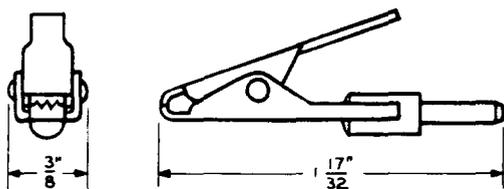

Fig. 14—KS-6278 Connecting Clip
**2.23 KS-6278:** The KS-6278 connecting clip tool (Fig. 14) is for general use on 360A, B, and C tools. The jaws can be insulated by means of a 108 cord tip (insulating tubing).